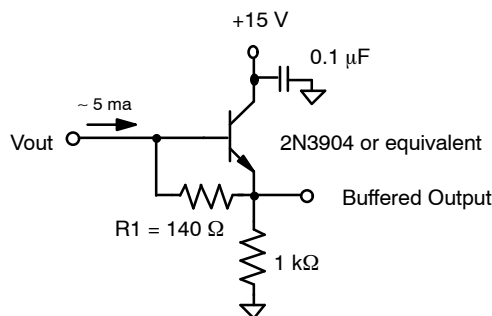

Figure 3. Output Structure Load Diagram
Charge presented to the floating diffusion (FD) is converted into a voltage and current amplified in order to drive off-chip loads. The resulting voltage change seen at the output is linearly related to the amount of charge placed on FD. Once the signal has been sampled by the system electronics, the reset gate (Φ_R) is clocked to remove the signal and FD is reset to the potential applied by VRD. More signal at the floating diffusion reduces the voltage seen at the output pin. In order to activate the output structure, an off-chip load must be added to the Vout pin of the device. See Figure 3.